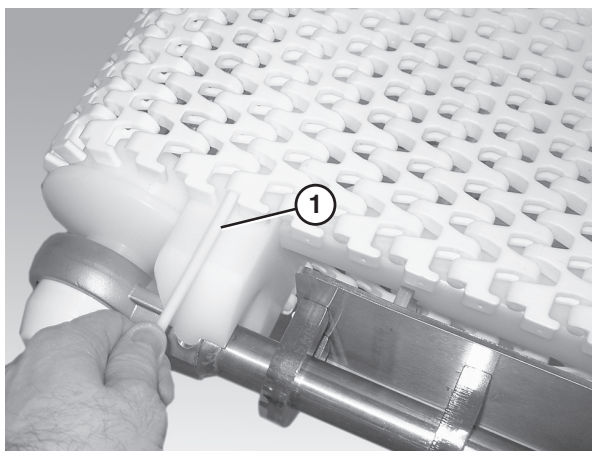

Figure 45
5. Insert the belt rod (Figure 45, item 1).